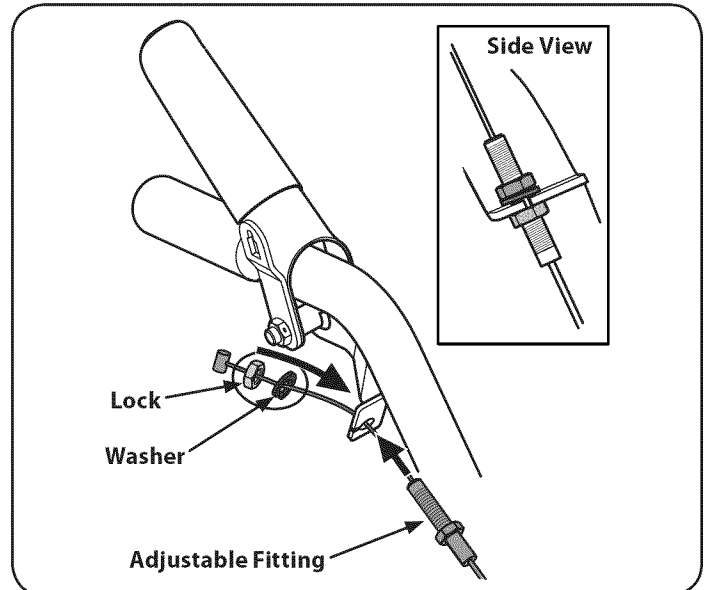

Figure 6
- Loosen the upper nut on the cable and slide the nut and washer off the adjustable fitting. See Figure 6.
- Slide the cable into the cable bracket as shown in Figure 6.